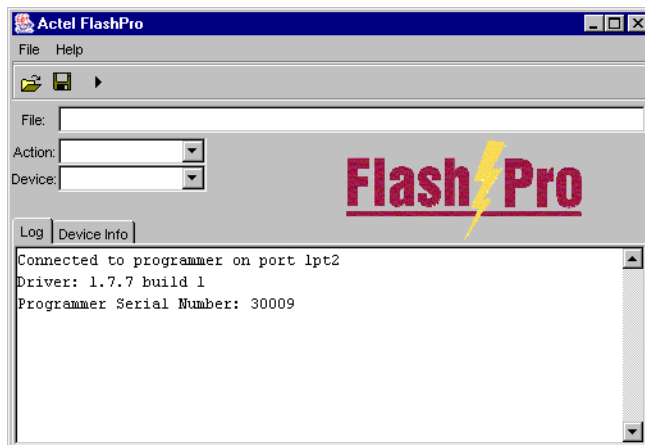

Figure 2-3. FlashPro: Successful Connection
5. Click **Connect**. A successful connect or any errors appears in the Log window, as shown in Figure 2-3. If you encounter failures, please refer to “Error Messages & Troubleshooting Tips” on page 89 for more information.